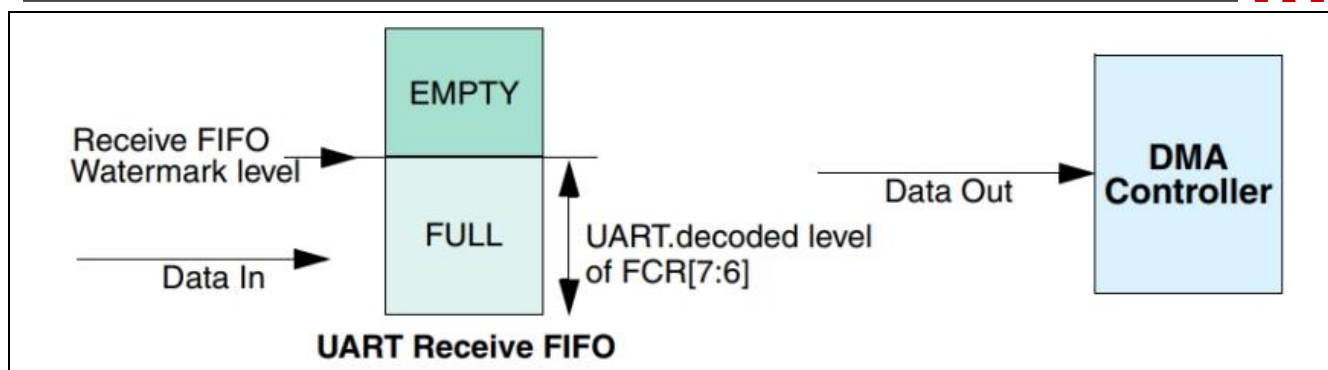

Figure 3-116 UART Receive FIFO
As can be seen in Figure 3-116, programming a source burst transaction length greater than the watermark level can cause underflow when there is not enough data to service the source burst request. Therefore, equation (3) below must be adhered to in order to avoid underflow.